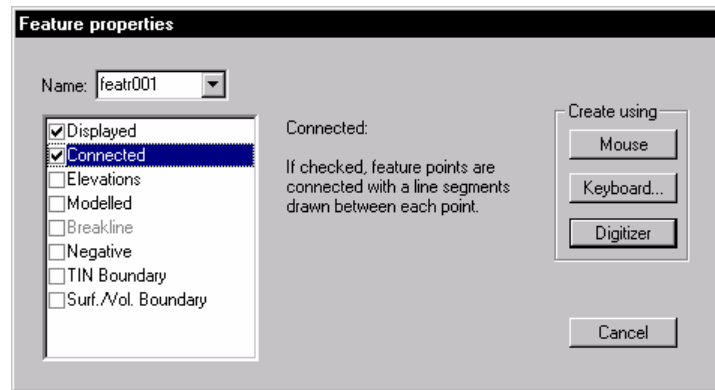

Figure 7.9: Feature Properties Dialog
10. Select menu Edit | New Feature to activate the *Feature Properties* dialog box shown below. Change your dialog box to match Figure 7.9 and press *Digitizer*.